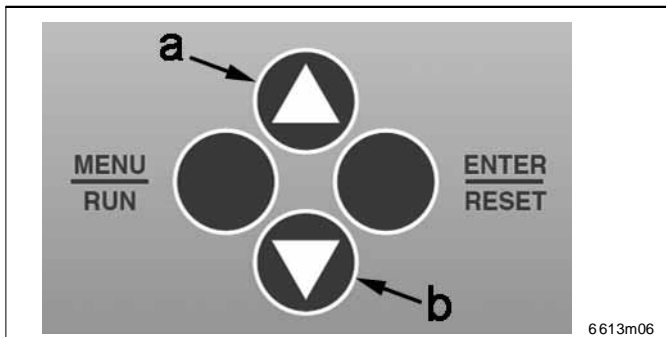

Fig. 15a Bedienfeld
As soon as you press the "UP" key (pos. a, Fig. 15a) outside of the configuration mode, the actual rest of the expired pause time (Fig. D) or lubricating time (Fig. E) is shown in the display.
- In the case of a field bus connection, set the system-related address code 0001 to 0255 by means of the UP and DOWN keys (see Fig. 15a).
- Complete your selection with the ENTER key (Fig. 15a).
The version number setting (5 - 10) is shown in the LMC2 display and is made using the UP & DOWN keys on the operating panel (see pos. a & b, Fig. 15a).
- Complete your selection (5 - 10) with the ENTER key (Fig. 15a).